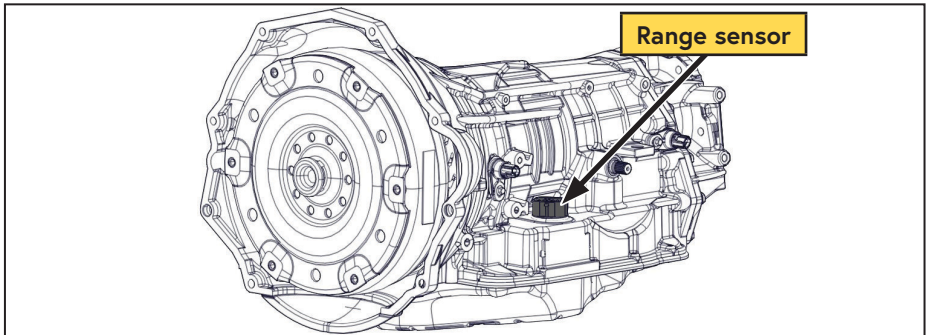

Figure 6 — Locate range sensor
- Locate the 23 pin connector plugged into the transmission range sensor on the driver side of the transmission (Figure 6).